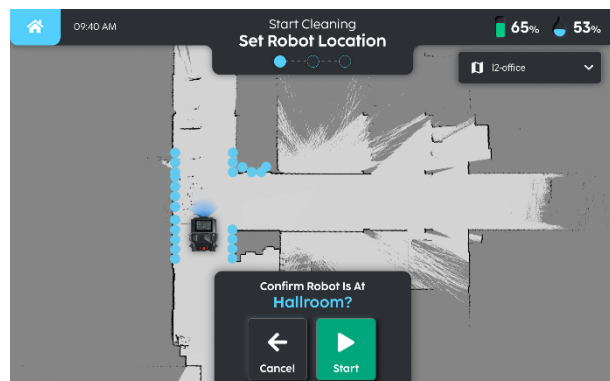

Fig. 3
2. Set robot's location on the map and select 'START' (Fig 3).